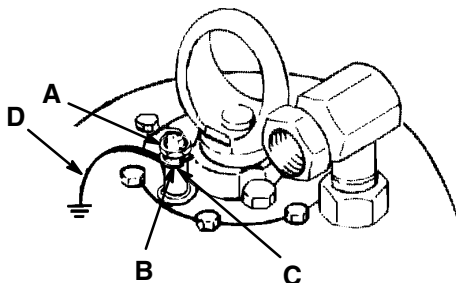

Fig 1
To ground the pump, loosen the grounding lug locknut (A) and washer (B). Insert one end of a 1.5 mm² (12 ga) minimum ground wire (D) into the slot in lug (C) and tighten the locknut securely. See Fig 1. Connect the other end of the wire to a true earth ground. See **ACCESSORIES** on page 18 to order a ground wire and clamp.
1. *Pump:* use a ground wire and clamp. See Fig 1.
NOTE: The reference numbers and letters in parentheses in the text refer to the callouts in Figures 1–6 and the Parts Drawing.